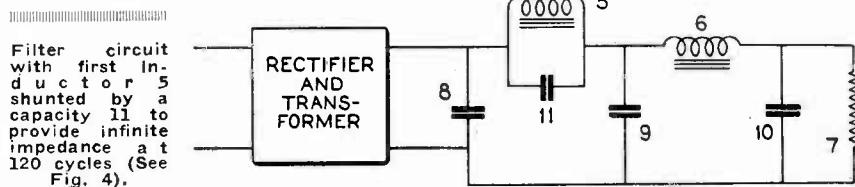

FIG. 5
For instance, in Fig. 5 is shown one method applicable to "B" circuits in which we have all the elements of Fig. 2 identically numbered, plus a capacity 11 connected in shunt to the inductance 5. If we are dealing with 60 cycle circuits the relative values of the inductance and capacity should be so designed that the equivalent quantity Z_2 will be infinite at 120 cycles. Since this quantity appears in the denominator of equation (5), the quantity I_4 will vanish at this frequency whereas at other frequencies the mesh will behave very similarly to the original simple mesh. The infinite suppression characteristic of the mesh of Fig. 5 will of course be apparent from physical considerations, since it is well known that a parallel resonant circuit, such as that formed by inductance 5 and capacity 11, has an infinite impedance at one frequency, and being connected between the source and the load will not pass this frequency through the load.